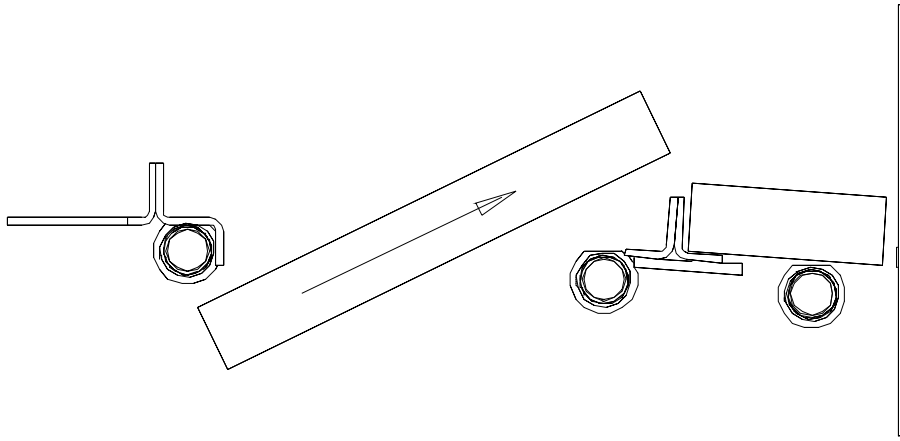

Figure 3.2a – Firebrick Baffle Installation
6. Install five full bricks, starting with outermost bricks first. See Figure 3.2a